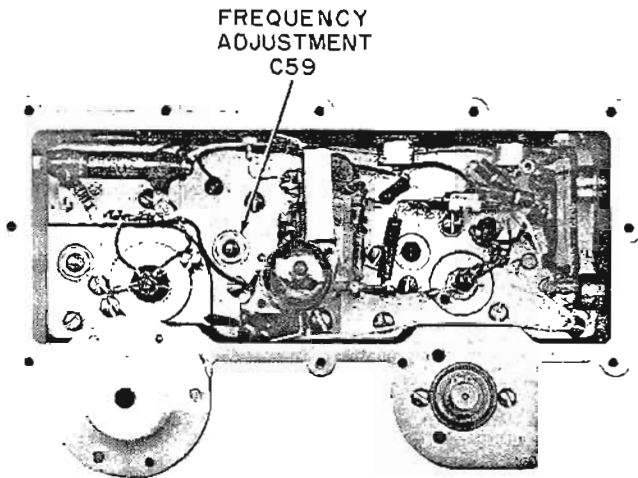

Figure 5-17. Location of RF Oscillator Adjustment
e. Check counter frequency indication; counter should indicate 21 MHz $\pm 0.5\%$ (± 105 kHz). If not, adjust capacitor C59 (Figure 5-17) for proper counter indication.